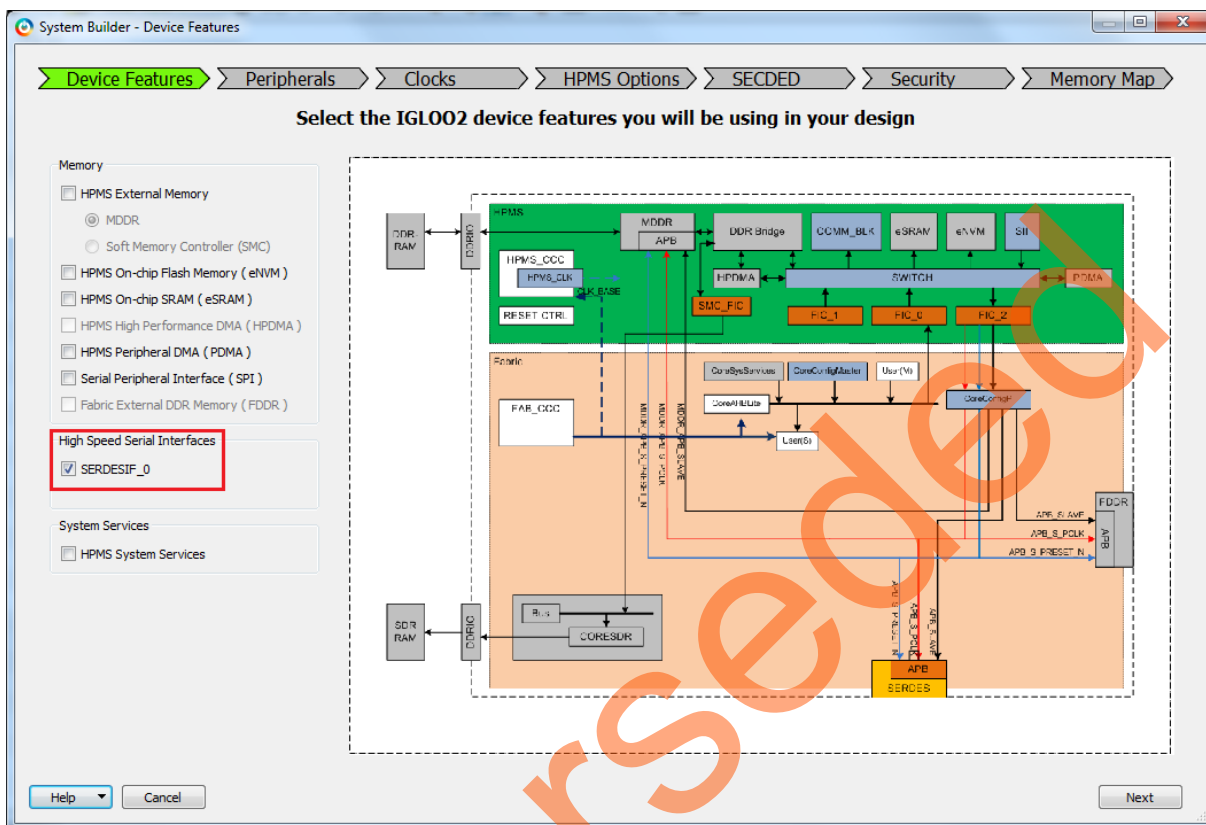

Figure 6 • System Builder – Device Features Page
9. In the **System Builder – Device Features** page, select **SERDESIF_0** under **High Speed Serial Interfaces** as shown in Figure 6.